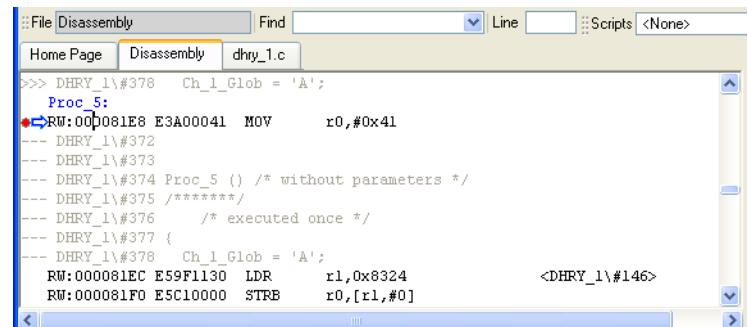

Figure 11-16 Locating a breakpoint
- If the breakpoint was set using an address reference, then the location is shown in the **Disassembly** tab. Figure 11-16 shows an example.